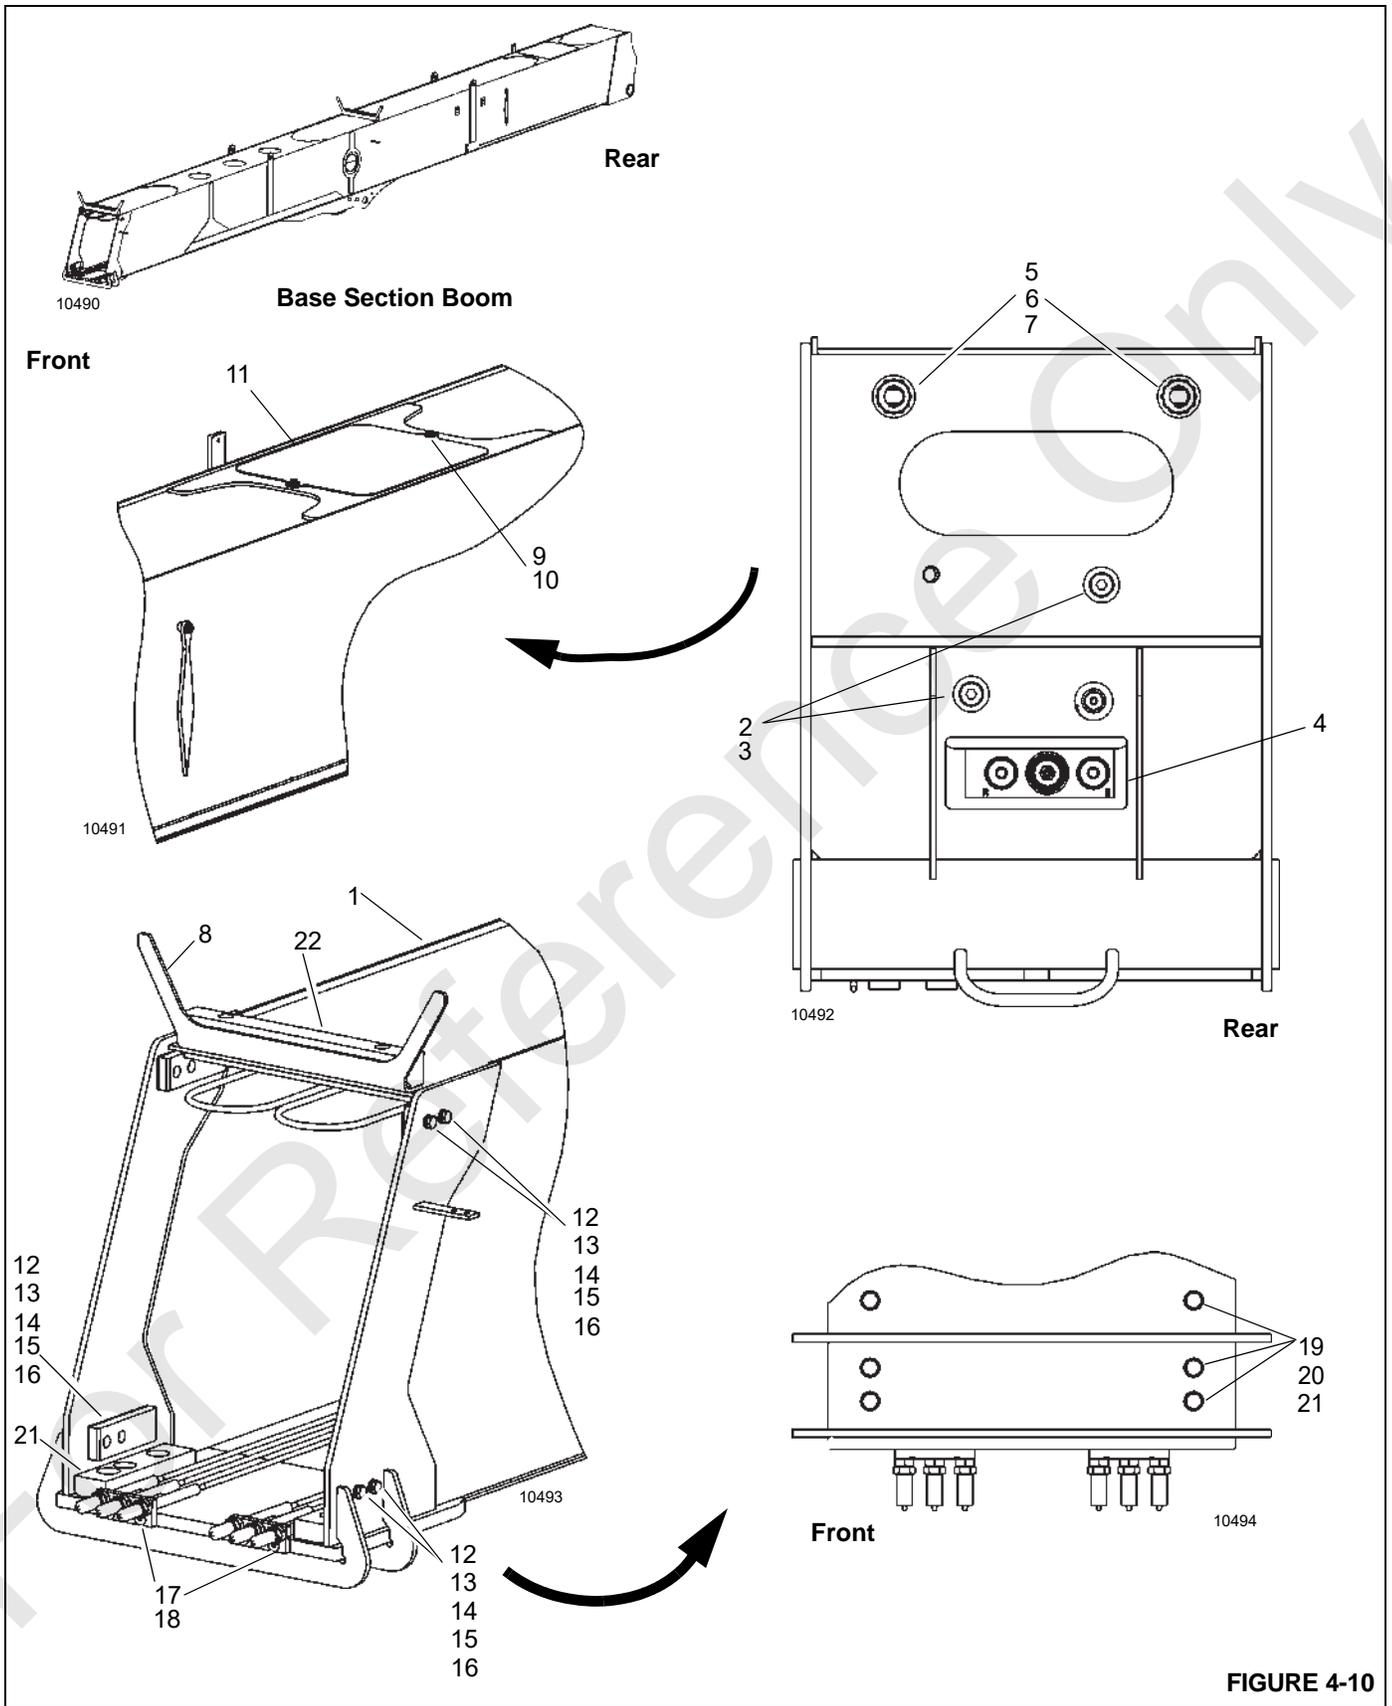

FIGURE 4-10
Steps 1 through 3 apply to a boom that is to be disassembled with the Base section (1, Figure 4-10) and jib (if equipped) left on crane.
Table 4-1 Base Section Boom Figure 4-10 Item List
5. Remove capscrews (2, Figure 4-10) and washers (3) that attach the telescope extend cylinder (4) to the base section boom (1).
6. Remove jam nuts (5) and washers (6) from synchronizing cables (7) at the rear of the Base section (1). Mark the locations of the nuts and washers. Mark
11. Remove and tag capscrews (12, Figure 4-10), washers (13), lockwashers (14), shims (15), and wear pads (16) from the sides of Base section boom (1).
12. Remove four capscrews (17) that retain the 3/2/1 retract cable anchors (18) to the bottom tip of the Base section boom (1).
13. Remove and tag capscrews (19), washers (20), and wear pads (21) from bottom tip of Base section boom. Pull the retract cable anchors (18) out and keep retract cables taut while pulling Tele 1 (with Tele 2, Tele 3, Tele 4) section out of Base section (1). Support the base end of the Tele 1 section as it exits the Base section boom.